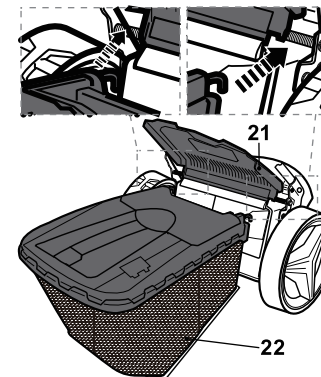

Fig. 6
Open the rear deflector guard (21) hold it in position and align the hooks on the grass catcher (22) with the rod to hang it onto it (Fig. 6).